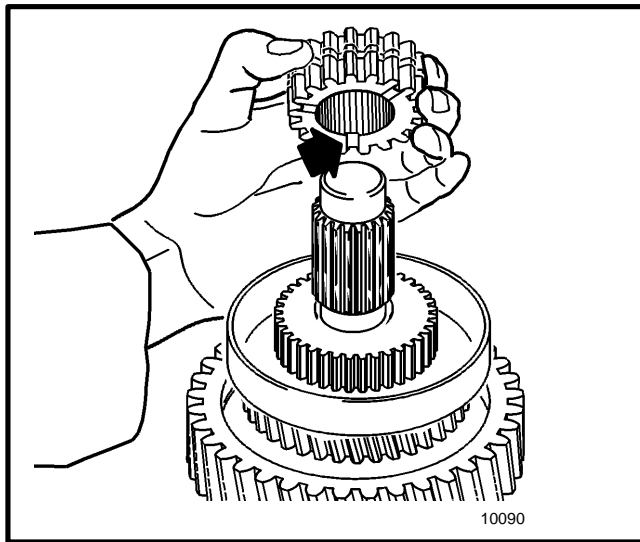

FIGURE 16. INSTALL THE HUB WITH THE OIL GROOVE TOWARD THIRD GEAR
13. Assemble the second gear synchronizer and spring into second gear. See FIGURE 16. Install the snap ring with the ends of the snap ring away from the gear. Put the mainshaft in a vise with soft jaws with the input end of the shaft up.
15. Install third gear on the mainshaft with the splines up. Install the synchronizer stop ring on third gear. Install the synchronizer hub on the mainshaft as shown in FIGURE 16. Install the synchronizer assembly and stop ring on the mainshaft.